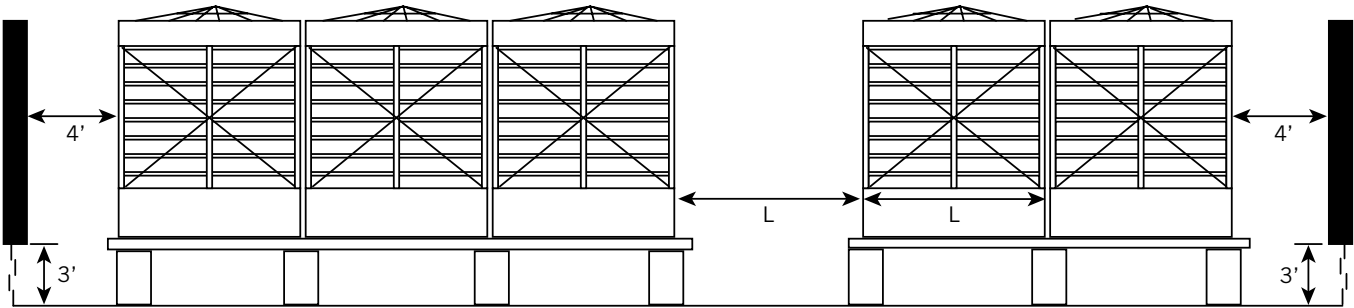

Figure 17. Elevation View of Recommended Enclosure
1. **Enclosure:** The bottom 3 feet of the well should be louvered a minimum of 50% net free area to allow air flow under the units as shown in Figure 17.